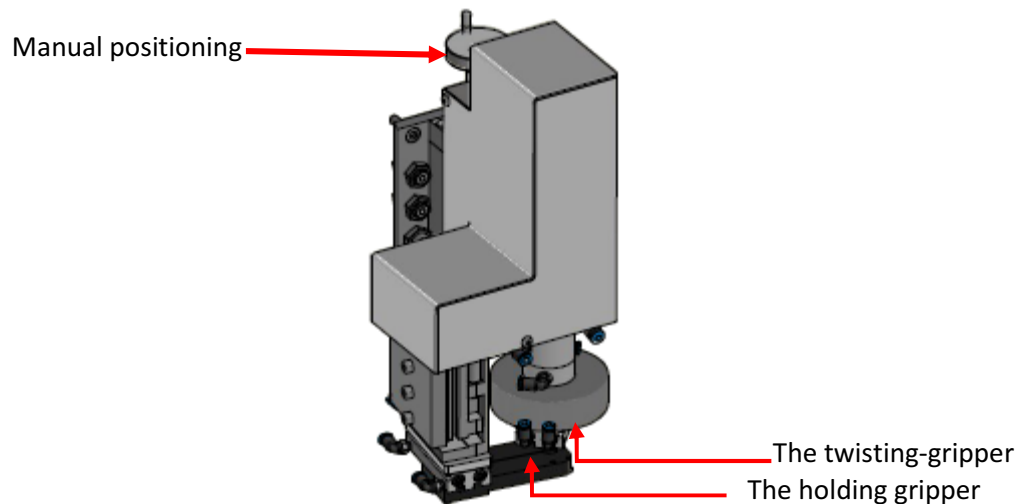

Figure 3-8 The twisting station
- Then **the twisting gripper** (see Figure 3-8) closes to grab the loose upper-end of the pre-roll. Afterward, the twisting gripper begins to twist using a preset sequence to ensure proper sealing of the pre-roll.